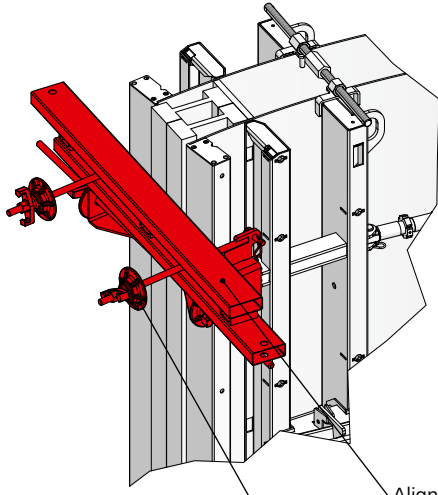

Fig. 17.4
3. An alignment rail is slid over both stop-end fixtures and fixated with two flange nuts (Fig. 17.4).